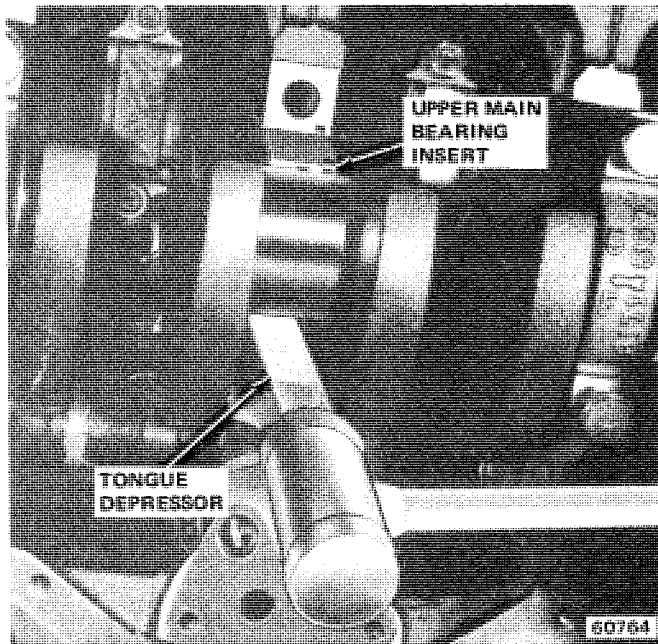

Fig. 1B-53 Removing No. 4 Main Bearing Insert
(1) Wipe lower insert clean and inspect for abnormal wear pattern and for dirt or metal imbedded in lining. Normal main bearing wear pattern is shown in figure 1B-54.